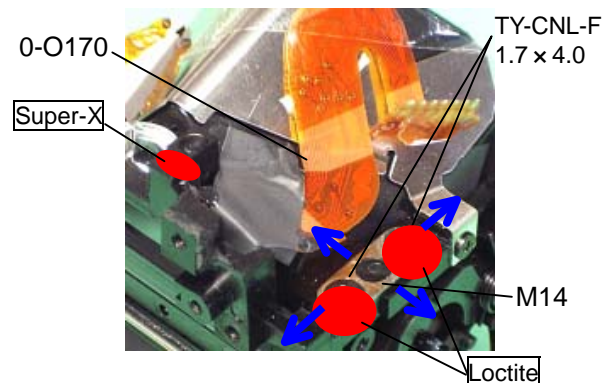

Fig.82
4) After adjustment is done, apply Super-X and Loctite to the place indicated in Fig.82.